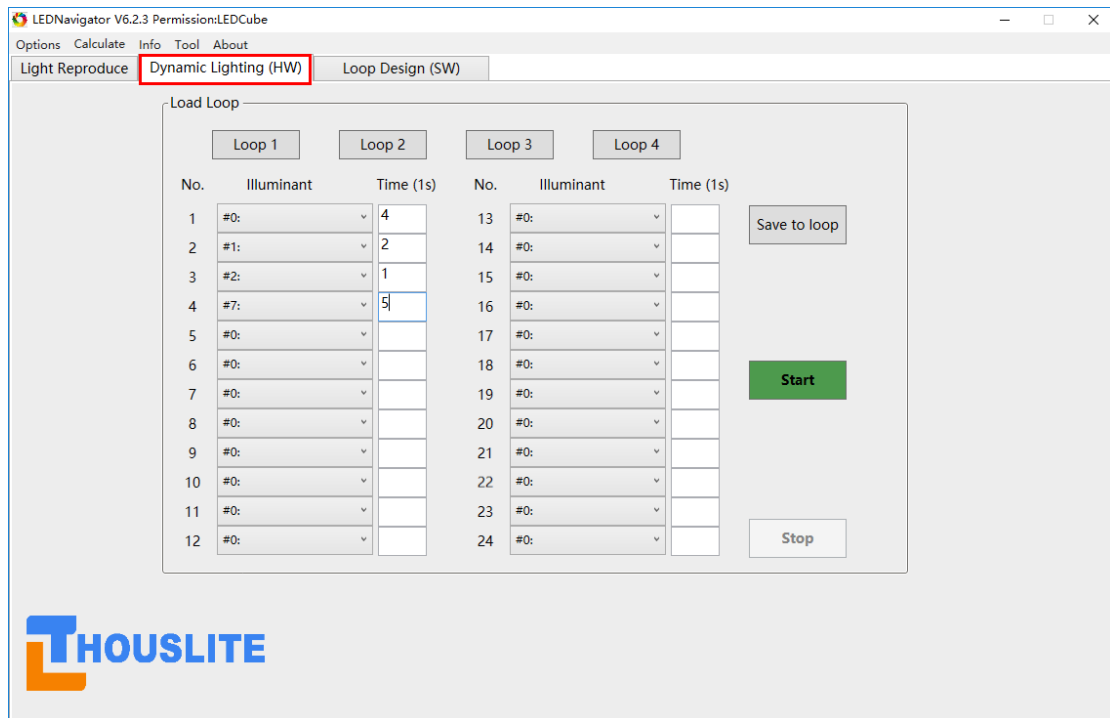
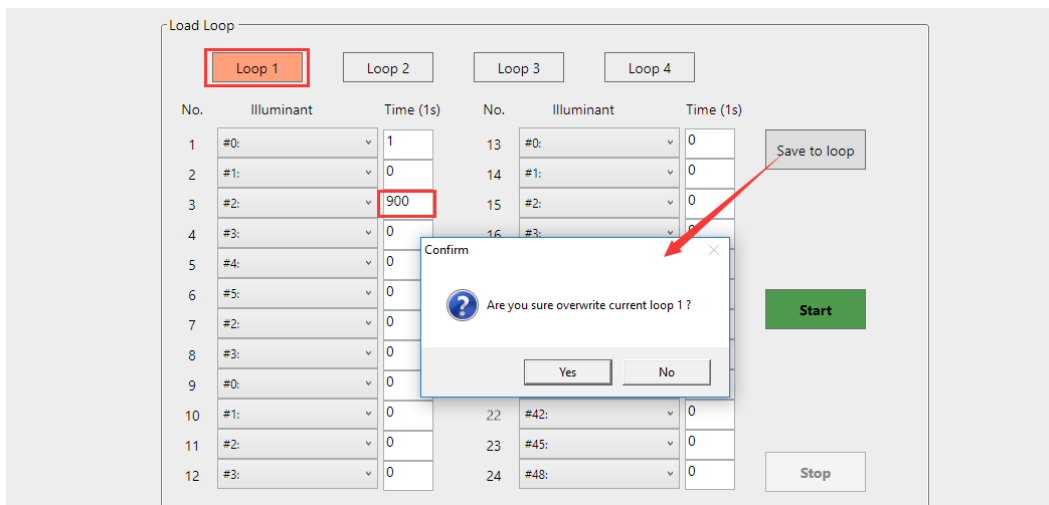

Fig. 4.13 Interface of Dynamic Lighting
Fig. 4.14 Save changes to current loop
4.8 Dynamic Lighting (HW)
Fig. 4.13 shows the interface of *Dynamic Lighting (HW)*. Totally, users can select max 24 presaved light sources within one loop. Users can set the switch interval between light sources in the loop. The minimum interval is 1 second. If the time is set to 0, the corresponding light source will be skipped in the loop. Press *Start* or *Stop* button to start or stop a loop. In addition, users could save the current setting into a loop by pressing *Save to Loop* as shown in Fig. 4.14.